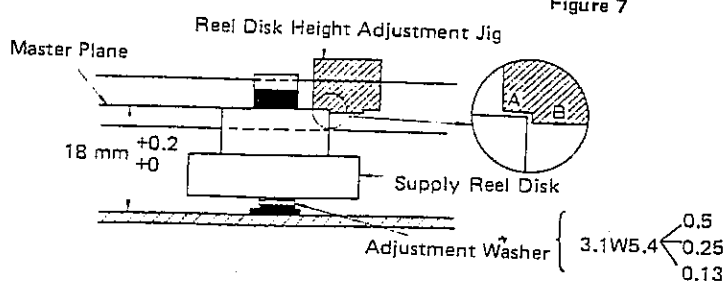

Figure 8
2. With the reel disk height adjustment jig, check to see whether part A in figure 8 is low and part B is high. If they are not within the specified values, adjust the height with the height adjustment washer, adjusting so that the vertical play is within 0.1 to 0.5 mm.